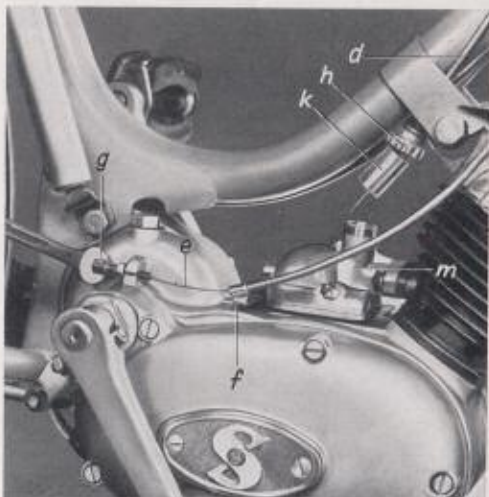

Fig. 6
- 2.3 Disconnect the cable to the gear shift (engaged in 2nd. speed) at the shift lever (f), and then remove the cable adjuster screw (g) from the guide lug at the engine housing (Fig. 6).